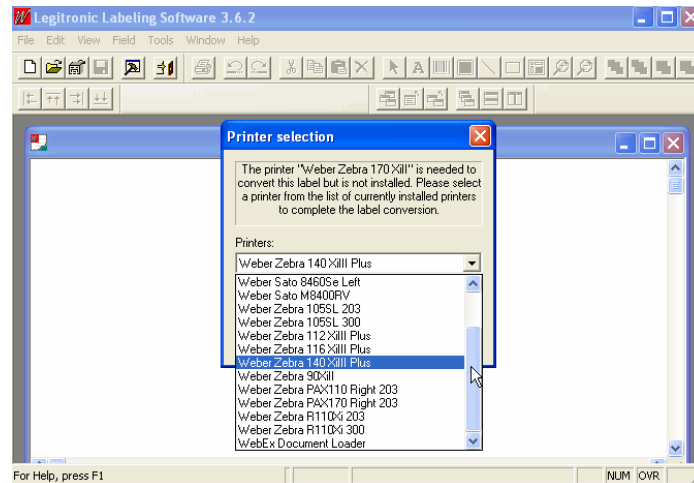

Figure 4-13
4.3.5. Pull down the printer list and select your printer. (Figure 4-13)